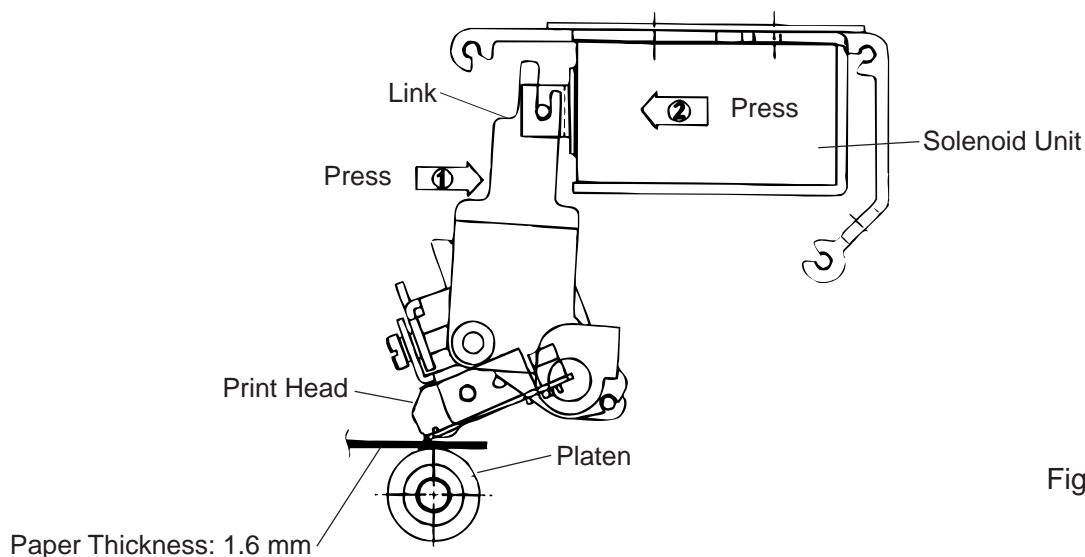

Fig. 2-11
2. *NEVER* remove the two screws painted red on the side of the print block. (See Fig. 2-11)